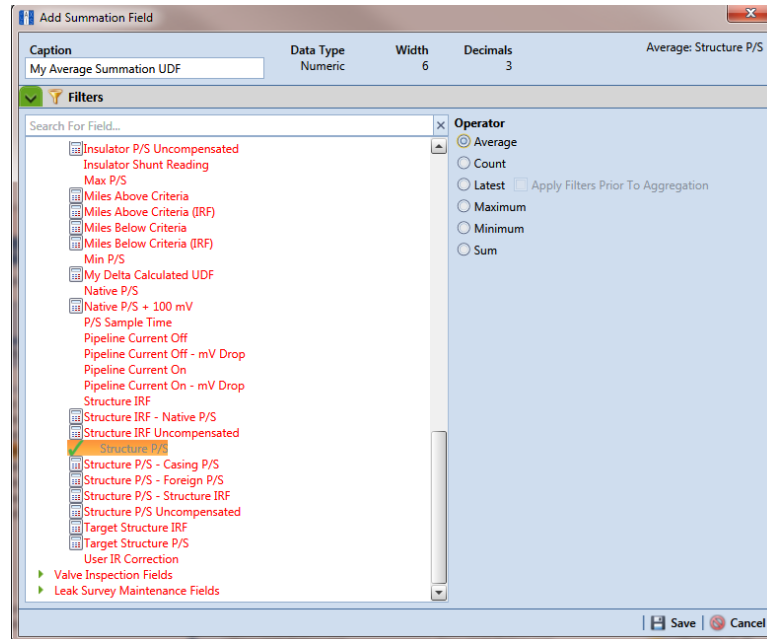

Figure 3-63. Summation Target Field
- 6 Select a target field in the list of fields in the selection panel. For example, click the ► expand arrow for *Test Point Inspection Fields*, then double-click *Structure P/S*. A ✓ green check mark indicates a selection (Figure 3-63, page 116).
- 7 Select an **Operator** option. For example, *Average* is selected in the following figure (Figure 3-63, page 116).